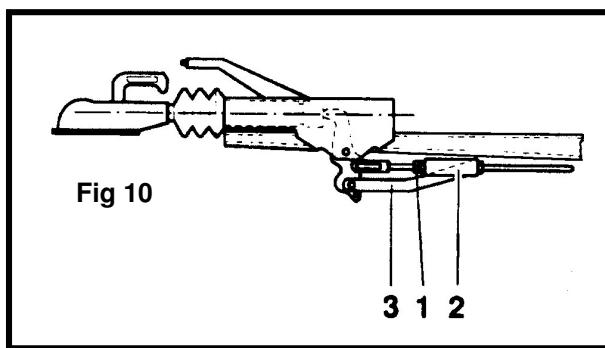

Fig 10
- On the spring cylinder type (2), adjust the locking nuts M10 (1)(Fig 10) to allow 1mm of free play between the nut and the spring cylinder. The cylinder should be able to rotate freely but not slide on the brakerod.